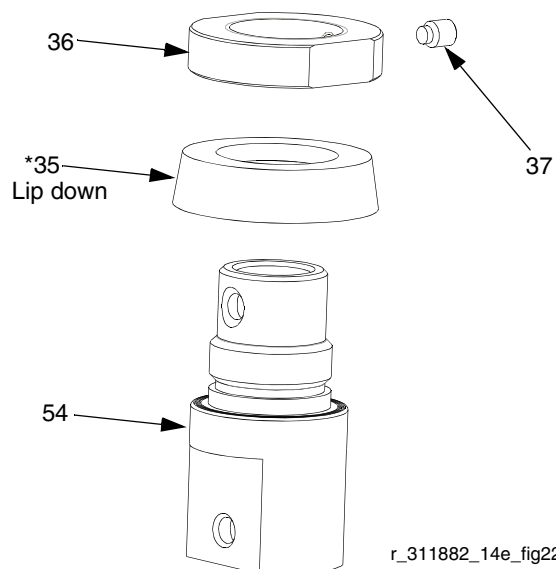

FIG. 23
10. Loosen set screw (37) from collar (36). Remove collar from piston housing (54). Remove u-cup (35*). Inspect all parts for damage. See FIG. 23.